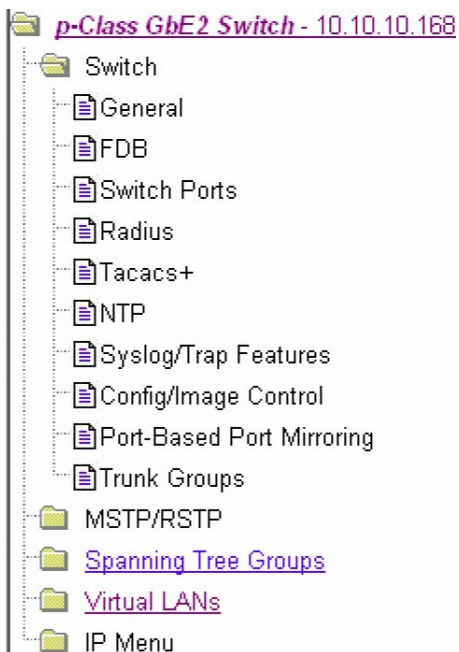

Figure 44 Switch Ports icon location
4. Navigate to the Switch Ports icon in the Switch folder (Figure 44).